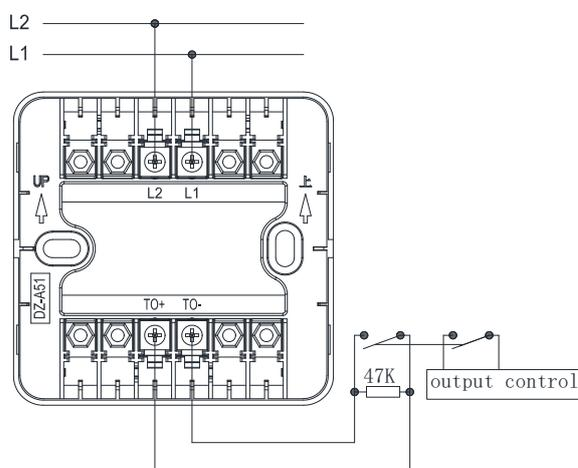

Figure 3 Normally open line wiring diagram
- 5.2 Fix the base of the module, connect the base correctly according to Figure 3, and insert the main body of the module into the base to ensure good contact;